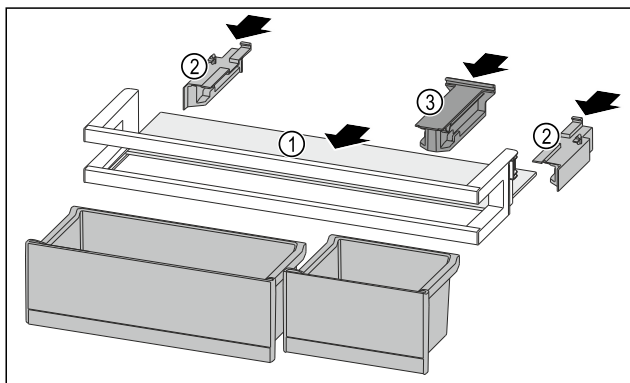

Fig. 261
- Push the shelf Fig. 261 (1) into the side recesses.
- Insert the side parts Fig. 261 (2).
- Insert the holding part Fig. 261 (3).